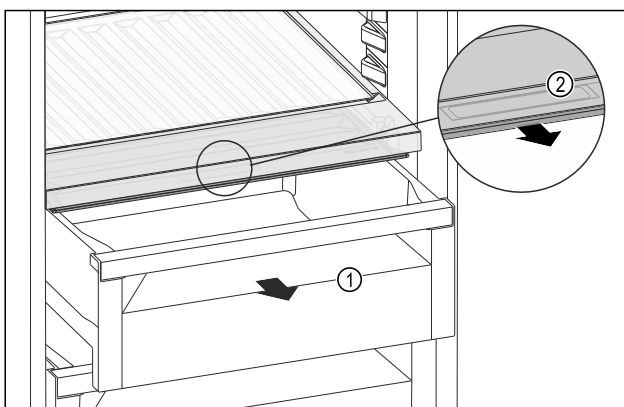

Fig. 189
- ▶ Pull out the drawer Fig. 189 (1).
- ▶ Grasp the recessed grip Fig. 189 (2) on the compartment lid and pull the compartment lid forwards at the same time.